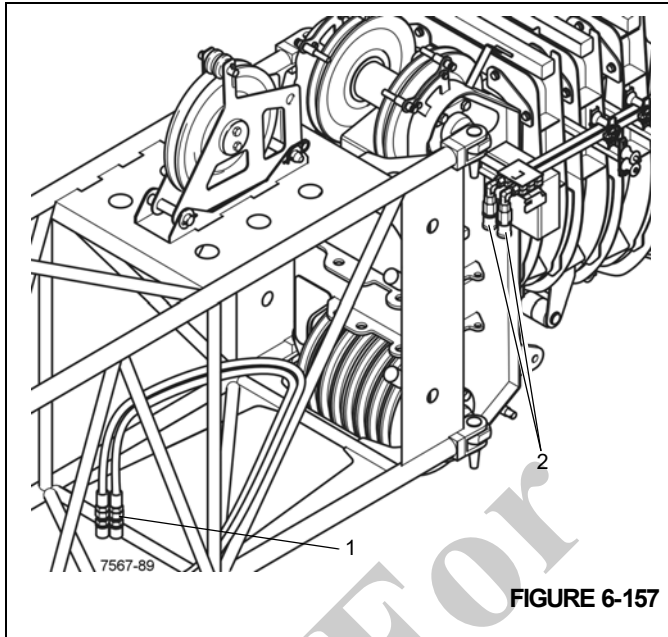

FIGURE 6-157
Refer to (Figure 6-156) and (Figure 6-157).
1. Disconnect the hoses (3) from the long hose ends (4), (Figure 6-157).
- Disconnect the short end hoses (1), (Figure 6-157) from the 26 ft (8 m) extension from the boom nose connectors (2).